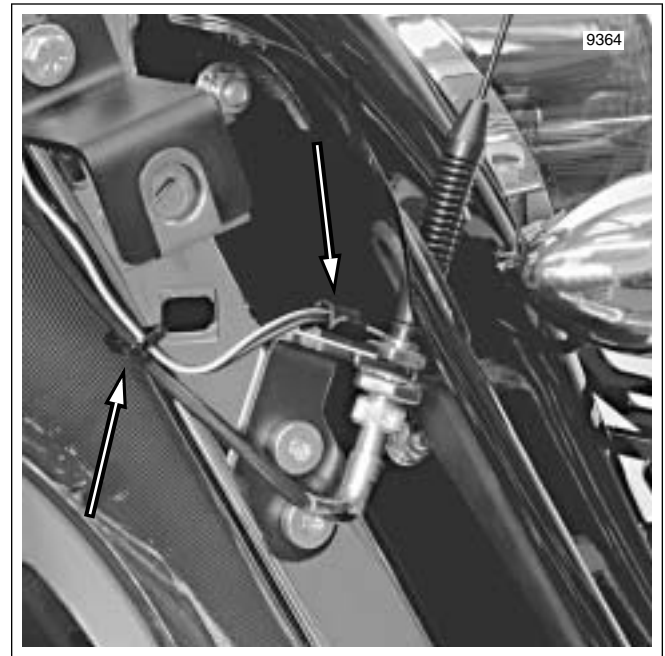

Figure 2-199. Capture Rear Facia Lamp Wires
4. Release rear facia lamp wires from cable clip at top of radio antenna bracket. See Figure 2-199.
3. Using slotted hole, install **new** cable strap to secure rear facia lamp wires and radio antenna cable to rear fender support. See Figure 2-199.